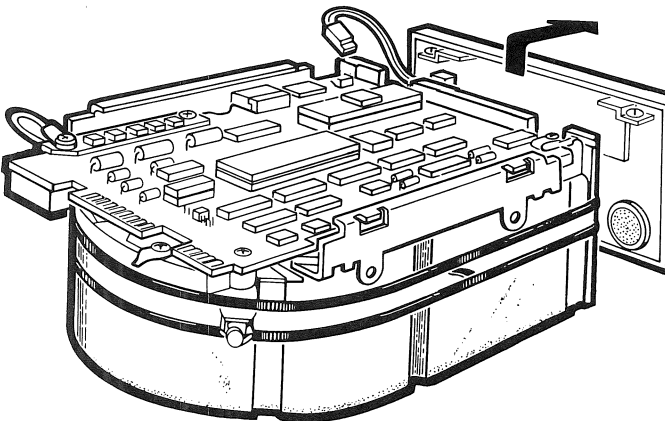

Figure 4-8 Remove the Front Bezel
4. Remove the front bezel by pulling it away from the drive. The bezel is held in place with pop fasteners (see Figure 4-8).